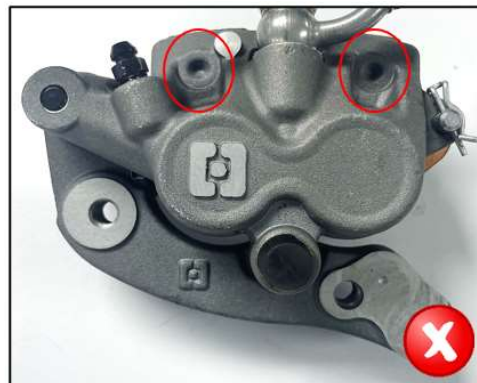

Figure 4:
- If the brake caliper needs to be replaced (Fig. 4 / supplier 2), continue with point 2.